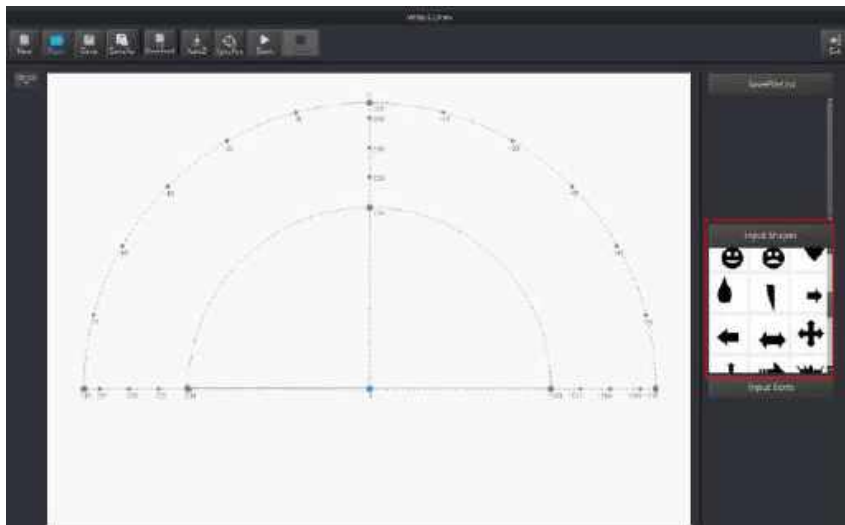

Figure 5.62 Insert a system image file
- Click a shape in the **Input Shapes** area to directly import a system image file, as shown in Figure 5.62.